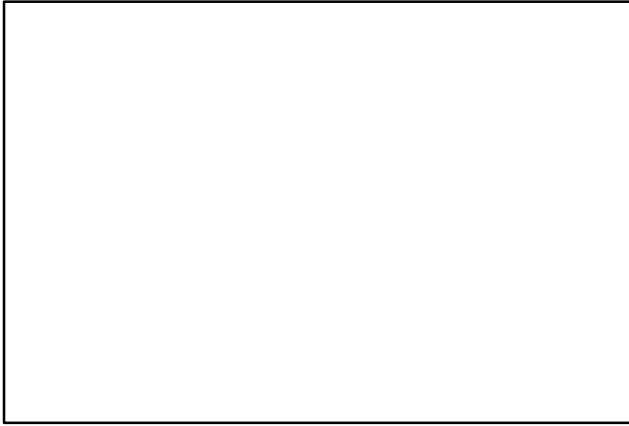

Figure 5
3. Secure front of roll bar to frame with (3) 1/2 x 13 – 1–1/4” lg. capscrews, 1/2” flatwashers, 1/2” lockwashers and 1/2 – 13 locknuts (Fig. 5). Tighten all fasteners securely.